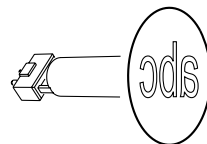

Figure 17. Correct gobo orientation
The orientations shown in Figure 17 are correct in most cases, but consult your Martin dealer or gobo supplier if you are in any doubt about the orientation of a specific gobo type.
**Correct gobo orientation is critical. Read the guidelines in Figure 17 carefully before installing a gobo.**
8. Insert the new gobo in the holder with the side that must face towards the lamp facing upwards, towards the spring (see Figure 20 and Figure 17).